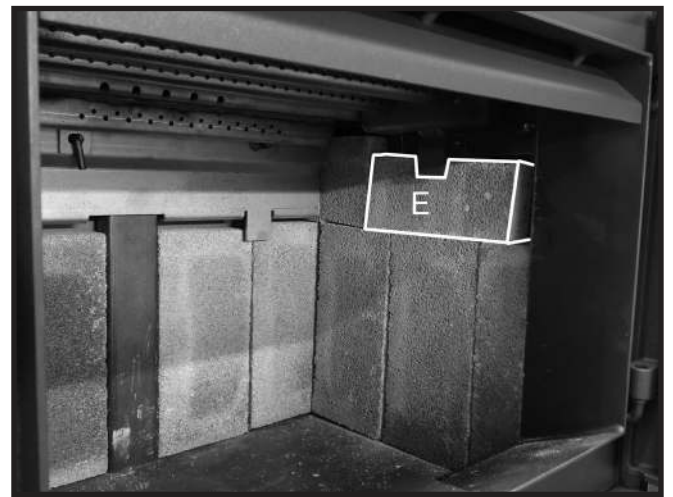

Figure 16: Final side wall firebrick in position.
4. Slide an "E" firebrick under the side wall brick rail tab and rest on top of the three previously placed side wall firebricks (Figure 16). Repeat steps 2-4 on the other side (Figure 16).